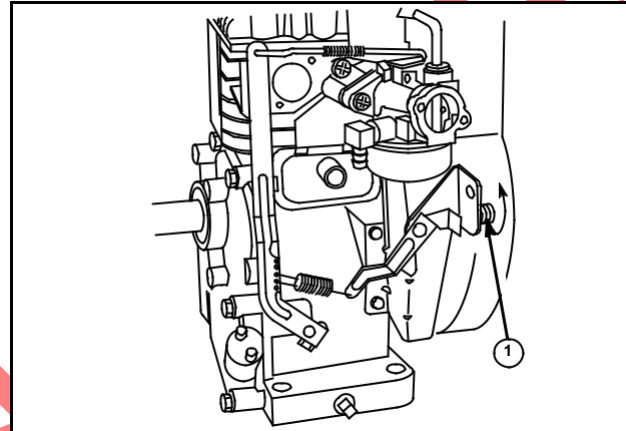

Fig. 28
Turn speed adjusting screw (1) clockwise to increase, counterclockwise to decrease, Fig. 28.